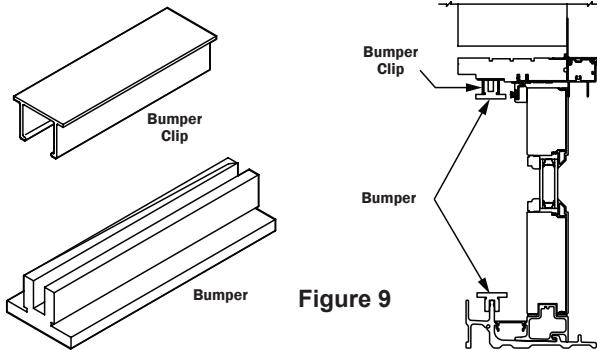

Figure 9
9. Attach one of the supplied bumpers to the bumper clip located on the head jamb on the stationary panel side of the door. Apply by pressing the bumper up into the installed clip. Place the other bumper over the roller track on the sill (Figure 9).